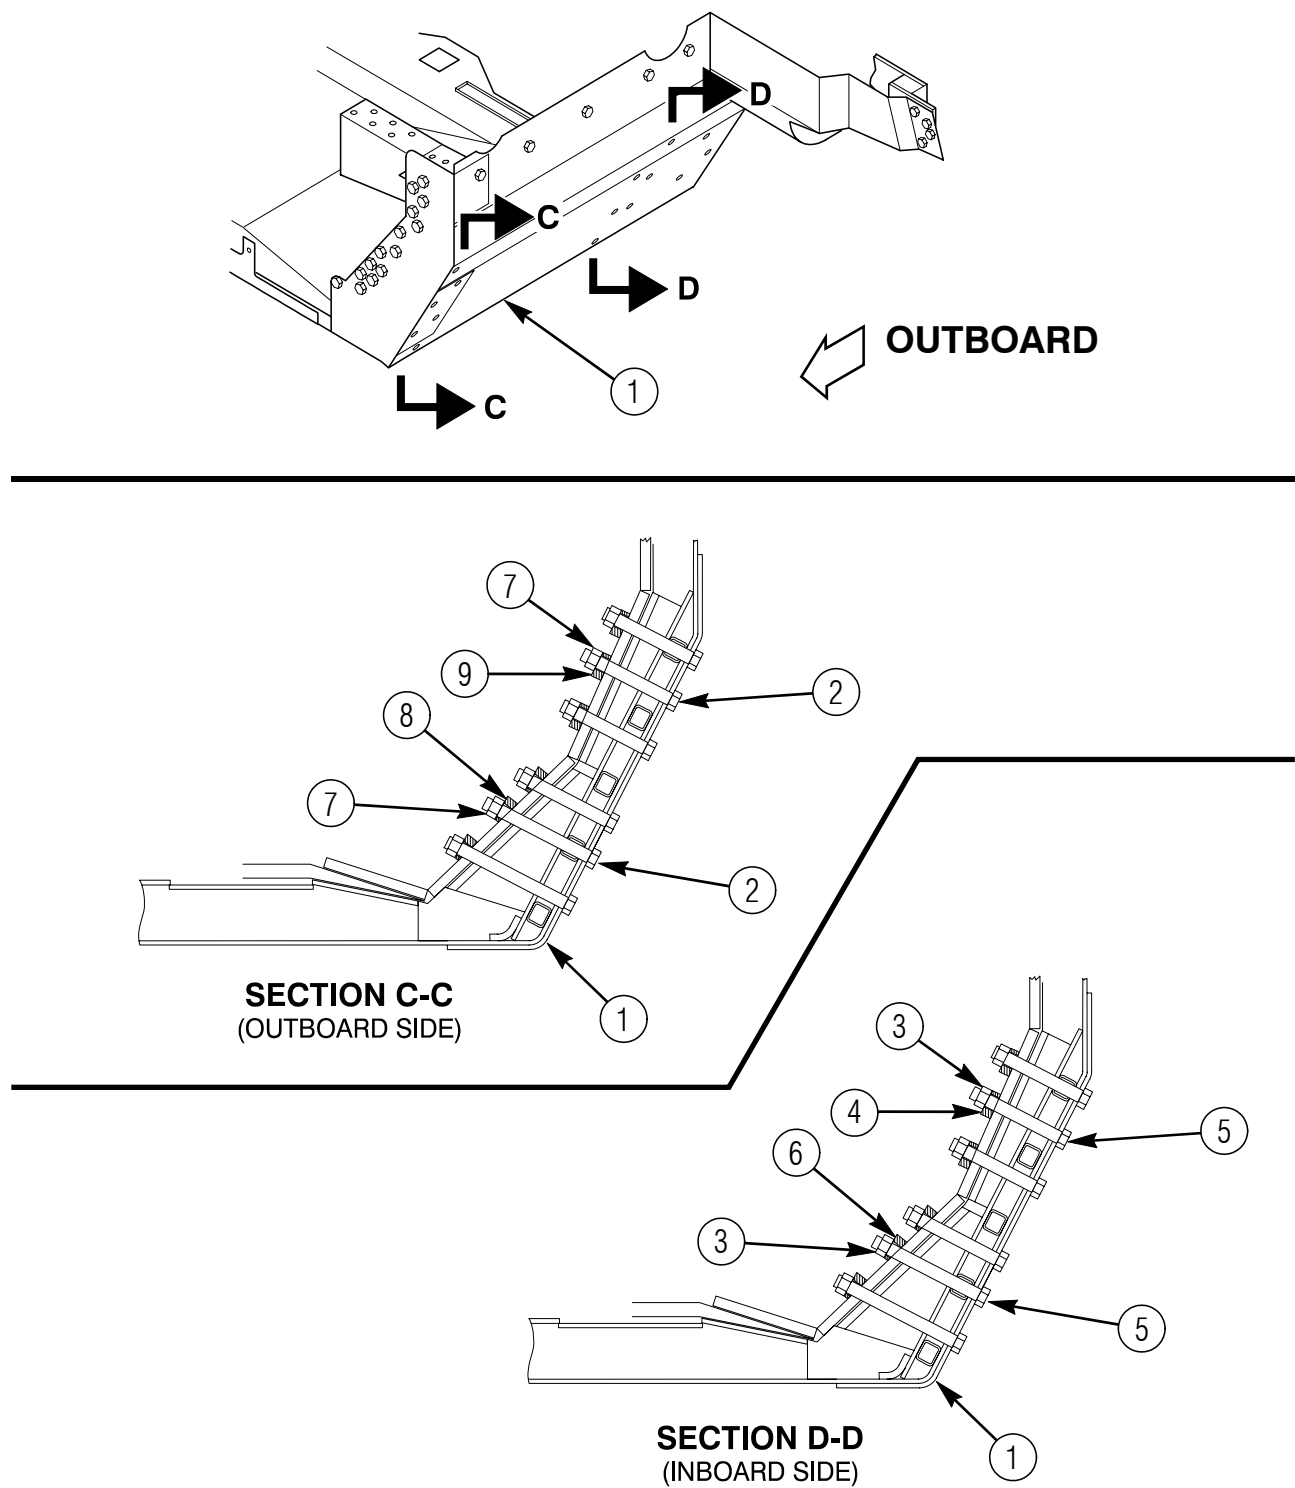

Figure 4.
7. Remove two locknuts (7), two capscrews (2), one upper kick panel wedge spacer (9), and one lower kick panel wedge spacer (8) from outboard side of right front underbody (1) as shown in figure 4. Discard capscrews (2) and locknuts (7). Note location and orientation of kick panel wedge spacers (8 and 9).
8. Remove two locknuts (3), two capscrews (5), one upper kick panel wedge spacer (4), and one lower kick panel wedge spacer (6) from inboard side of right front underbody (1) as shown in figure 4. Discard capscrews (5) and locknuts (3). Note location and orientation of kick panel wedge spacers (4 and 6).